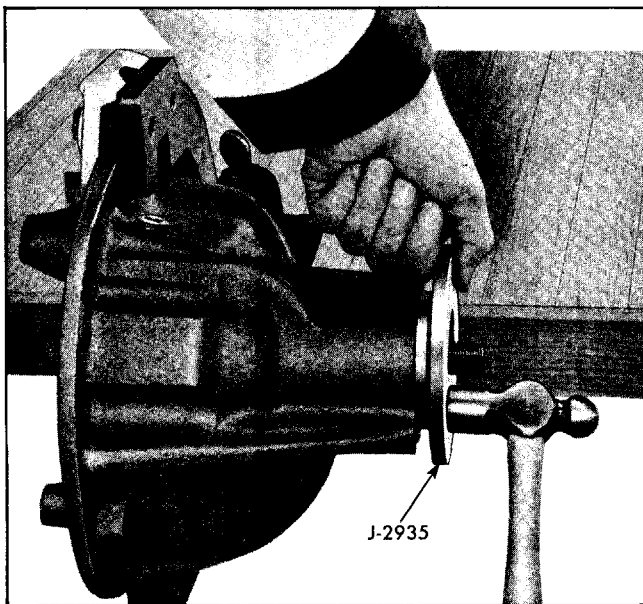

Fig. 4-39 Installing Pinion Oil Seal
23. Inspect pinion oil seal for damage. If seal retainer does not appear bent and leather is not damaged, seal may be reused. Coat outside surface of seal retainer with Permatex No. 3 or similar compound. Install seal by tapping into place using Installer Plate J-2935 against face of seal (Fig. 4-39). **NOTE:** Placing carrier so pinion is horizontal will reduce possibility of pinion falling out when seal is being tapped into place.